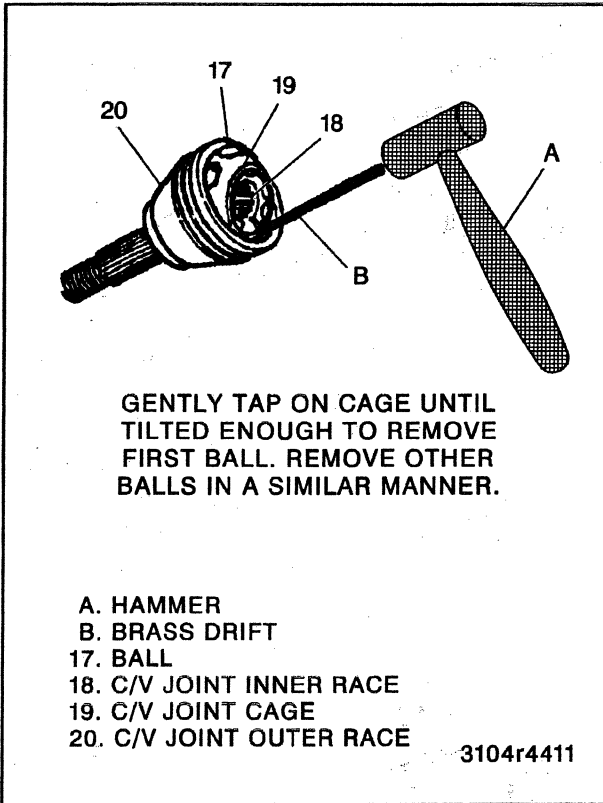
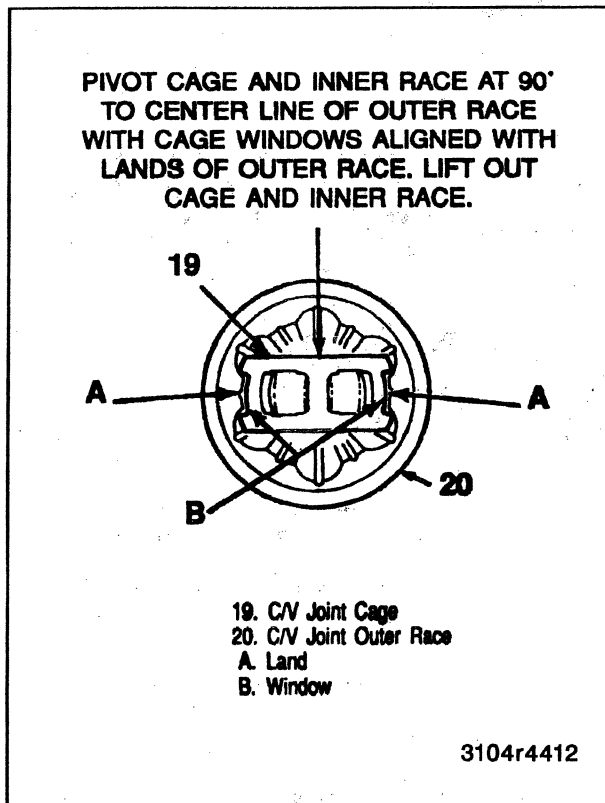

Figure 16—Removing C/V Joint Balls
Figure 17—Separating Outer Race and Cage
1. Use a brass drift and hammer to gently tap on the C/V joint cage (17) until it is tilted enough to remove the first chrome alloy ball (15) (figure 16).
2. Tilt the cage (17) in opposite direction to remove opposing ball (15).
- Repeat this process until all six balls (15) are removed.
3. Position the cage (17) and the inner race (16) 90 degrees to the center line of the outer race (18) and align the cage windows with the lands of the outer race.
4. Separate the cage (17) and the inner race (16) from the outer race (18) (figure 17).
- B. Align the cage windows with the lands. Pivot the cage into position (figure 17).
2. Balls (15) (figure 16).
3. Small seal-retaining clamp (11) on the neck of the new seal (13). Do not crimp.
- A. Slide the seal (12) onto the axle shaft (13) and position the neck of the seal in the seal groove on the axle shaft.